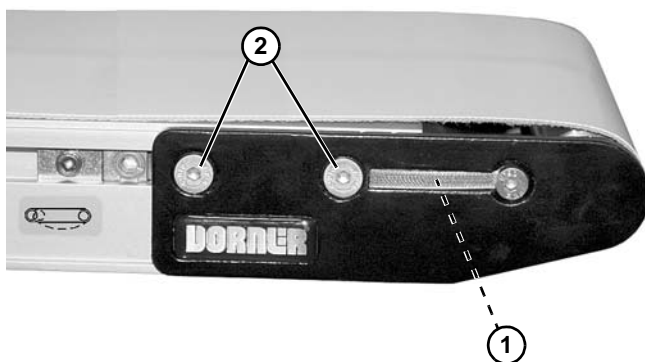

Figure 9
- With a 5 mm hex-key wrench, rotate pinion gear (**Figure 9, item 1**) to tension the conveyor belt. Tighten fastening screws (**Figure 9, item 2**) on both sides of conveyor to 80 in-lb (9 Nm). For proper tensioning, refer to “Conveyor Belt Tensioning” on page 20”.